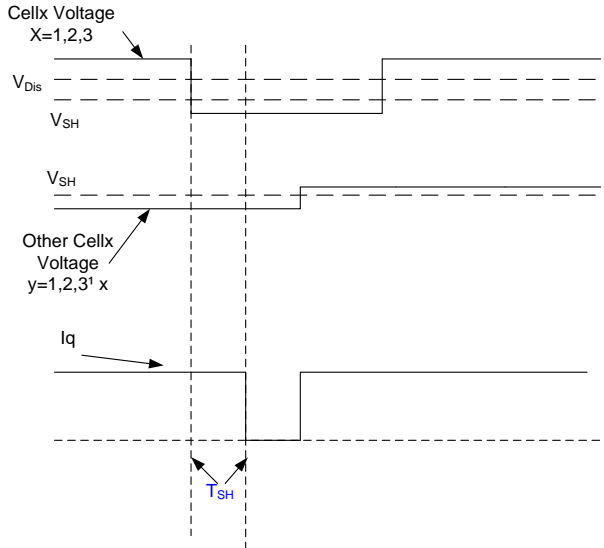

Figure 4: Shutdown Status
The MP6420 decreases most of the quiescent current during shutdown. When all cell voltages are lower than V_{Dis} and the shutdown voltage (V_{SH}), all over-voltage (OV) monitor blocks are disabled (see Figure 4).